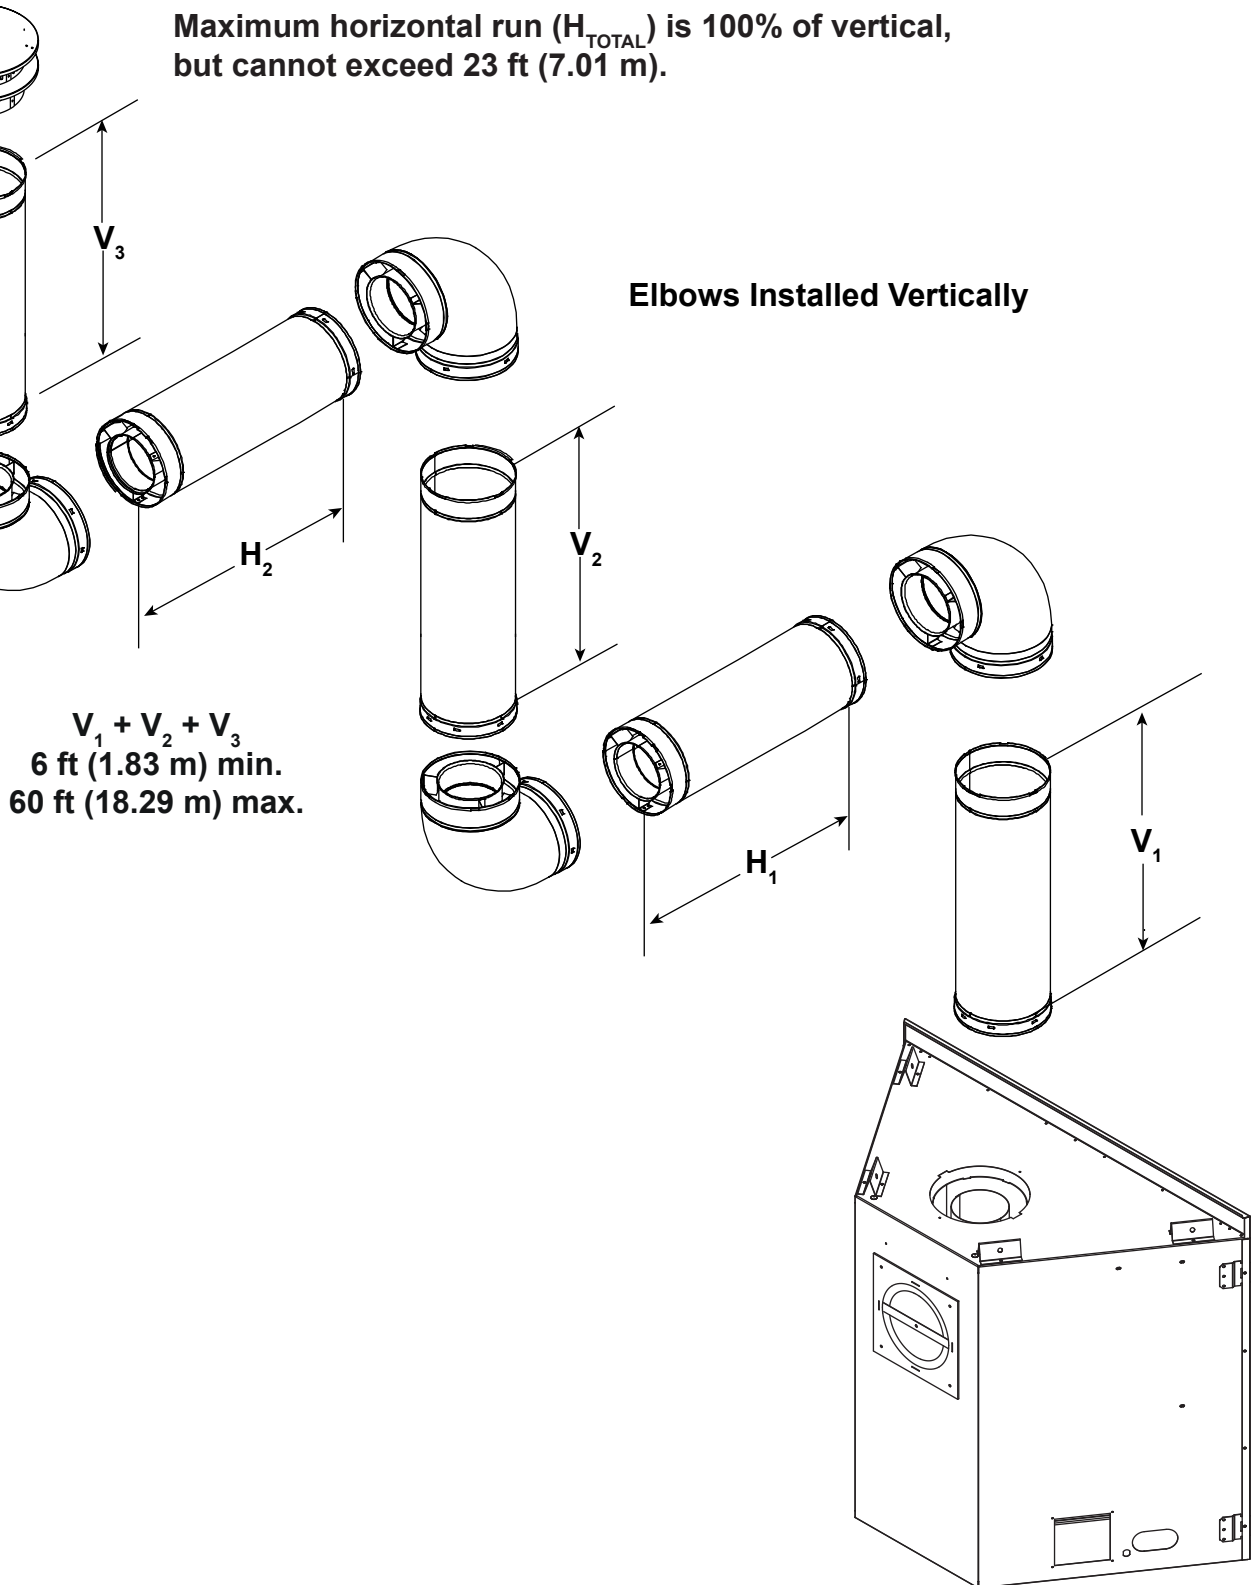

Figure 4.22
- A maximum of four 90° elbows (or eight 45° elbows) may be used in a top vented, vertically terminated vent configuration. See Figure 4.22.